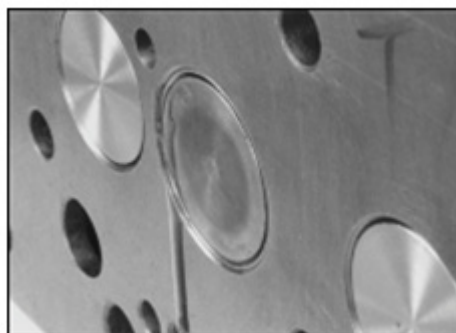

Figure 25
- Check if the liquid leaks out between the valve face and seat (Figure 25).